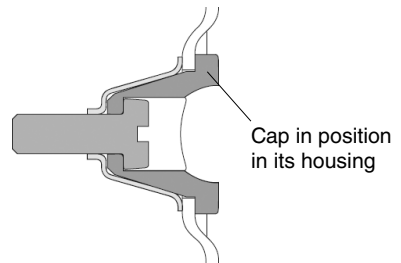

**Fig. 10.1**
- 3 / Tighten the tensioner to **1 Nm** until the cap is fully seated in its housing (Fig. 10.1).